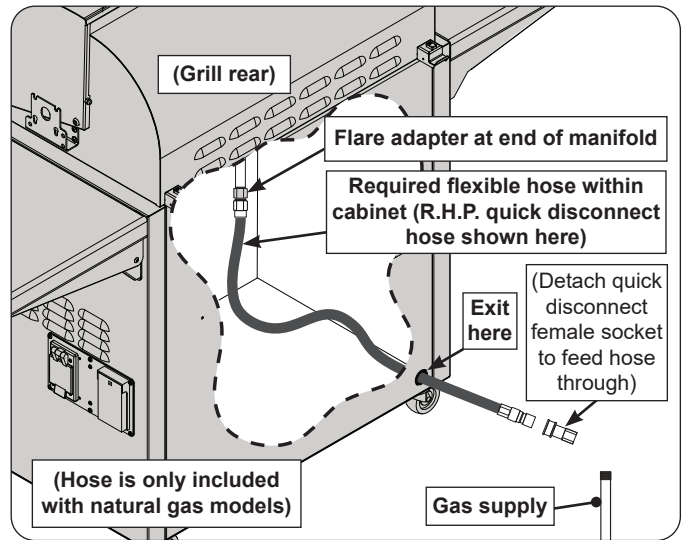

Fig. 24-1 Flexible hose assembly detail
**2. Household propane only:** A regulator hose assembly designed for L.P. cylinders comes pre-installed to the unit valve manifold. First remove this assembly from the flare adapter (at end of manifold), and then install a quick disconnect hose or similar (purchased separately) to the adapter. (An R.H.P. quick disconnect hose is recommended - see third bullet above.) Use a pipe joint compound resistant to all gasses on all NPT pipe fittings except flare fittings. Reference Fig. 24-1. Then proceed to step 3.
**3.** Route the quick disconnect hose (or similar) out of the hole in the rear bottom right of the cabinet, and to the gas supply (see Fig. 24-1).